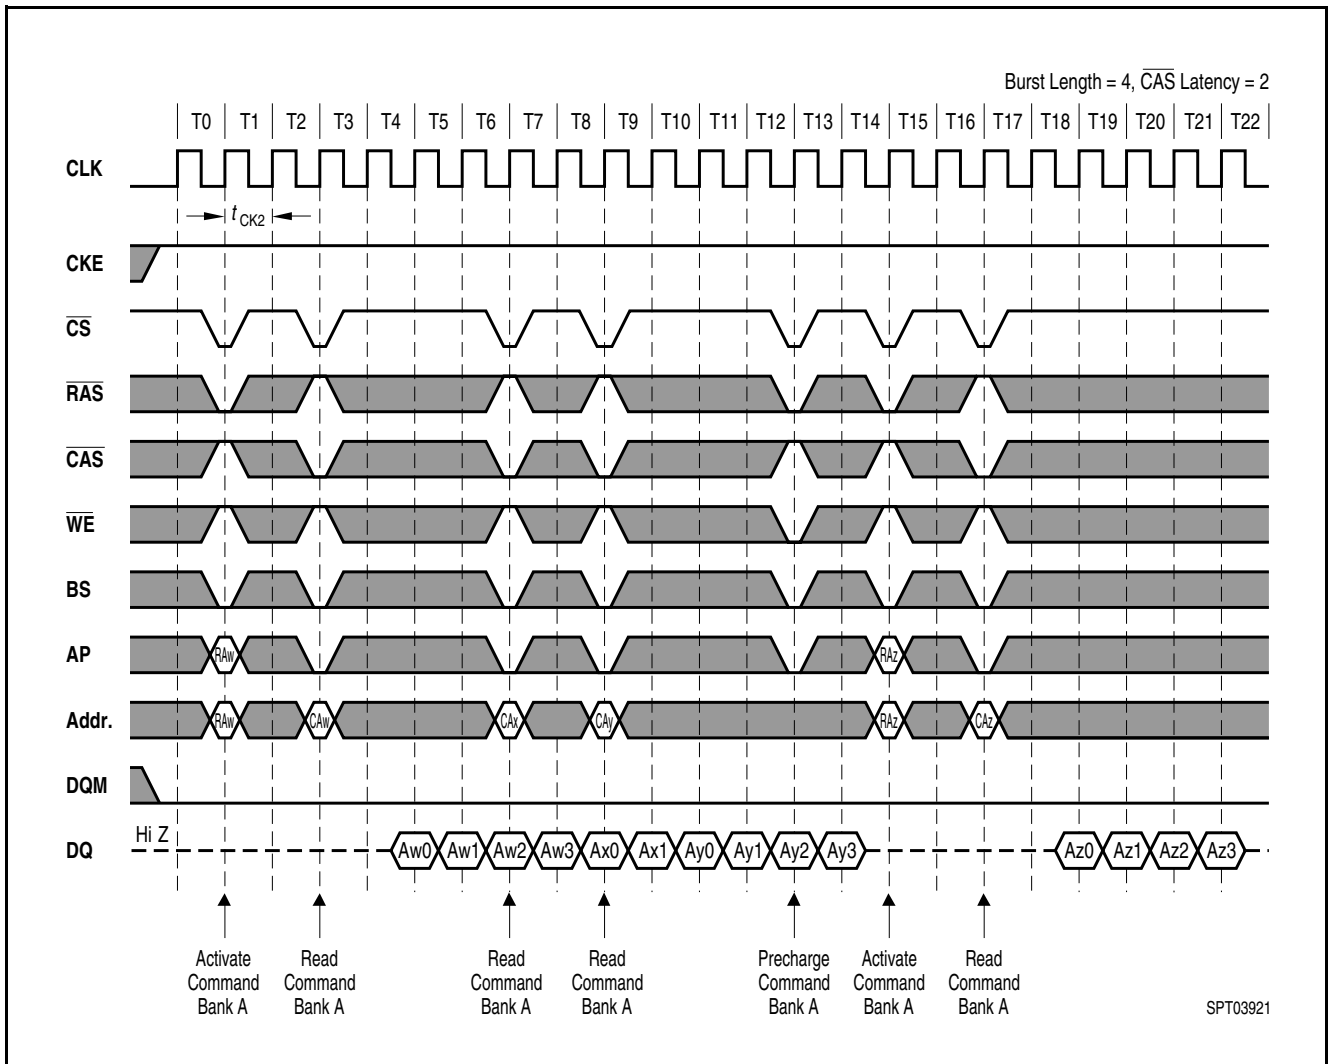

Figure 27 CAS Latency = 2
- **Figure 27** CAS Latency = 2